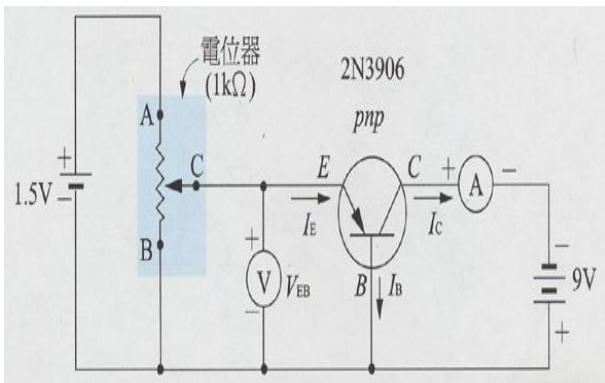

Figure 4
1. In accordance with Figure 4 device circuit diagram be combined as shown in Figure 5 Make the shot among the electrode and the base electrode by the forward bias voltage between collector and base by the reverse bias. Voltmeter for measuring the voltage between the emitter and the base of the V_{EB} of the ammeter is used to measure the outflow of the collector current I_C .